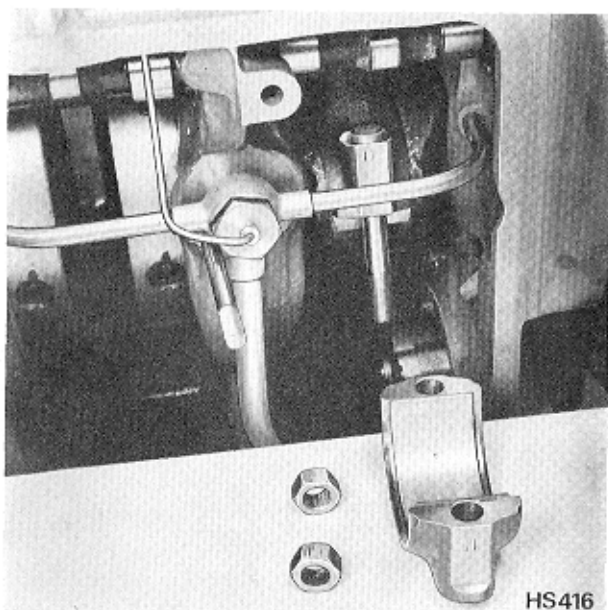

Fig. 94 Big End Bearing
- (e) Remove connecting rod nuts and cap; fit thread protectors (Fig. 94).